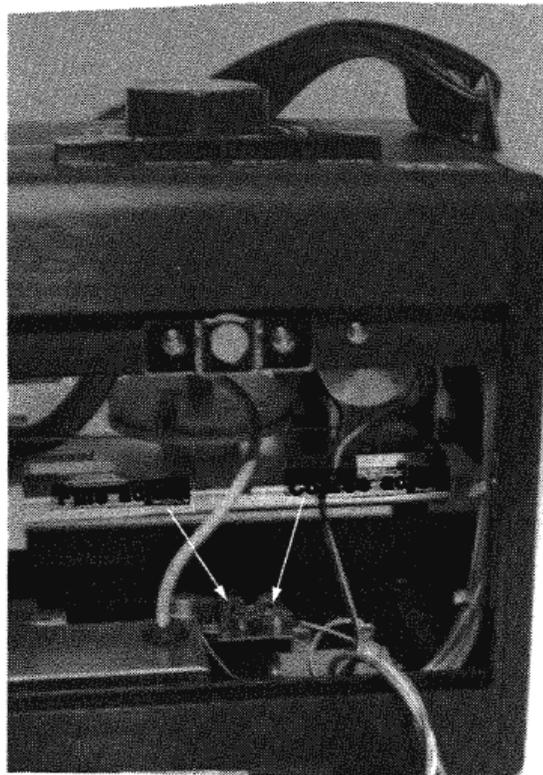

Figure 42. Adjusting the flow rate
Step 2. Locate the pump adjustment circuit on the right-hand side of the PIEZOBALANCE (Figure 42).
Caution: As you are making the adjustments, do not touch the capacitor (shown in Figure 42) with a metal screwdriver. This will destroy the circuit. To avoid this, wrap the metal shaft of your screwdriver with electrical tape.